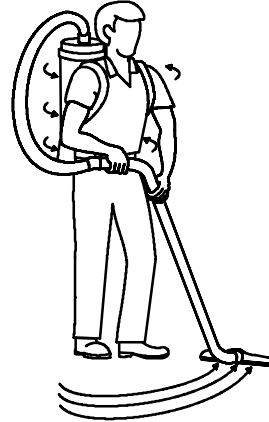

FIG. 7
2. Draw the top of the wand in toward your waist and twist at the waist walking backward or forward (a side-to-side motion) (Figure 7).